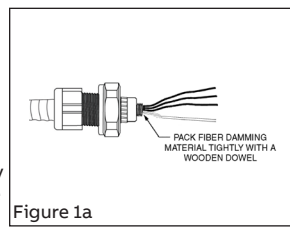

Figure 1a
- 1a Pack the fiber damming material tightly into all voids between conductors and body and spread strands of uninsulated grounding conductor, where applicable (Figure 1a).